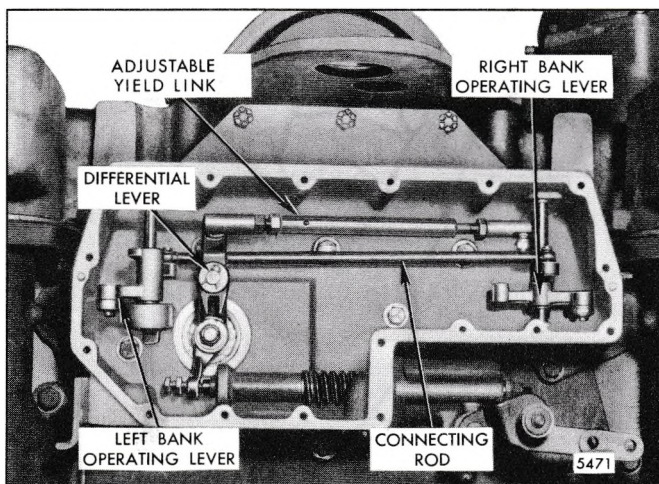

Fig. 8 - Variable Speed Governor with Cover Removed (Adjustable Yield Link)
1. Loosen the spring retainer locknut (Fig. 8) and back off the high-speed spring retainer, if necessary, so that a minimum of 3/8" of the threads on the retainer extend beyond the locknut.
2. On governors with a connecting yield (spring) link (Fig. 8), hold the stop lever in its *run* position and move the speed control lever to full speed. Then, adjust the link until it just starts to compress. Lock the link in this position. On governors with a solid connecting